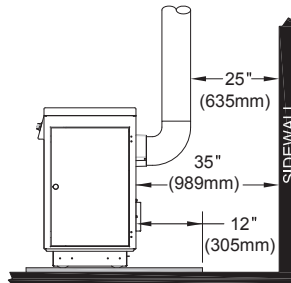

FIG. 2 (SIDE VIEW)
Minimum clearances to unprotected combustible walls and ceilings as noted by figures 2 through 4 must be maintained. Drapes, curtains, furniture and other combustible materials should be kept much further away from the heater to avoid fire. If you choose to, you may install the heater and chimney connector closer to combustible surfaces than indicated by Figures 2 through 4 IF a clearance reduction system is also installed to protect combustible ceilings and walls near the heater and chimney connector. However, there are limits to how close the heater and chimney connector can be installed to combustible surfaces protected by a clearance reduction system.
3. Check Figures 2, 3, and 4. Be sure you have the clearances shown from the heater and the connector pipe to combustible surfaces. If you have a solid brick or stone wall behind your heater, you can place the heater as close as you wish to the wall. If the wall is only faced with brick or stone, treat it as a combustible wall.